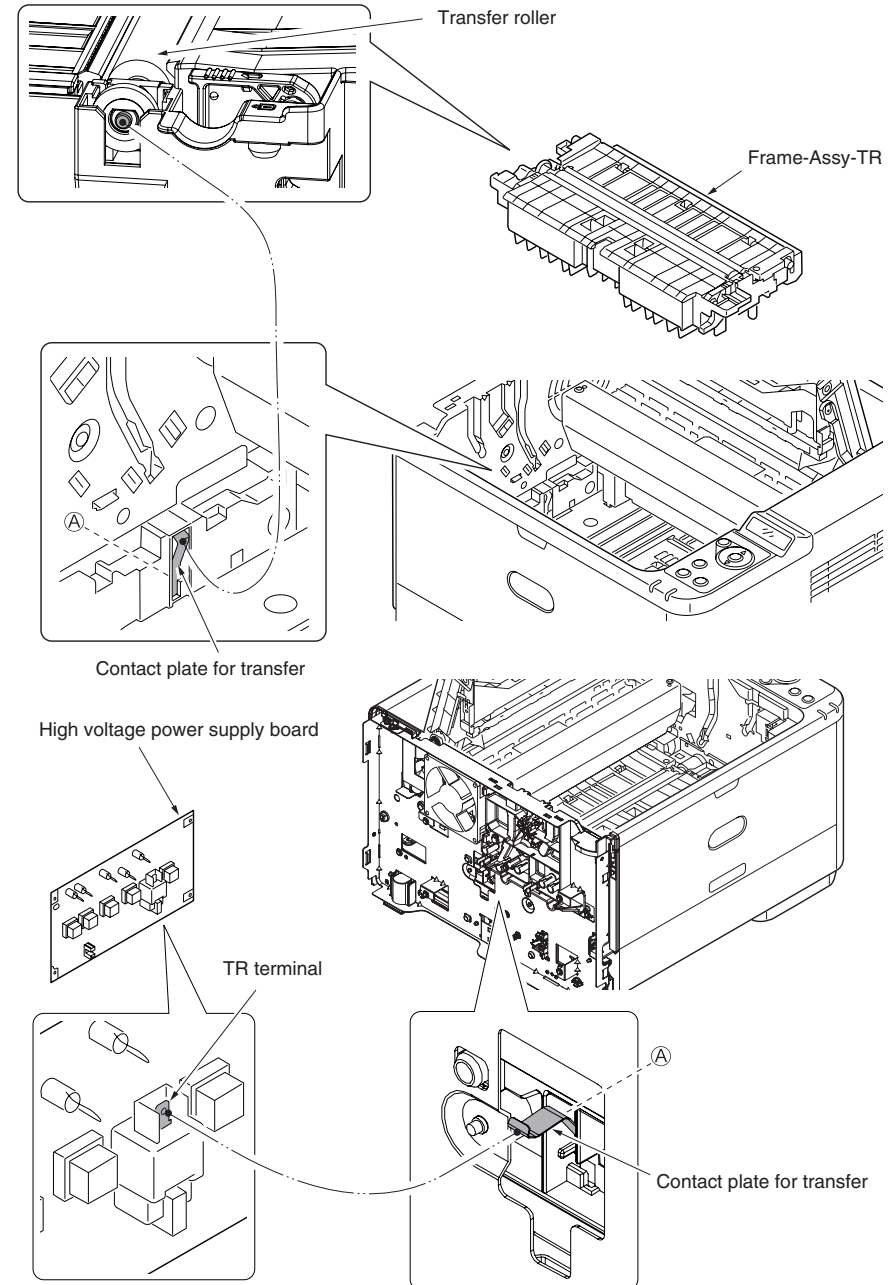

Figure 2-4
① Pale printing or the whole printing is faded.
- Yes Does the contact plate of the transfer roller contact the TR terminal of the high-voltage power supply unit properly? (See Figure 2-4 , Section 6.2(6))